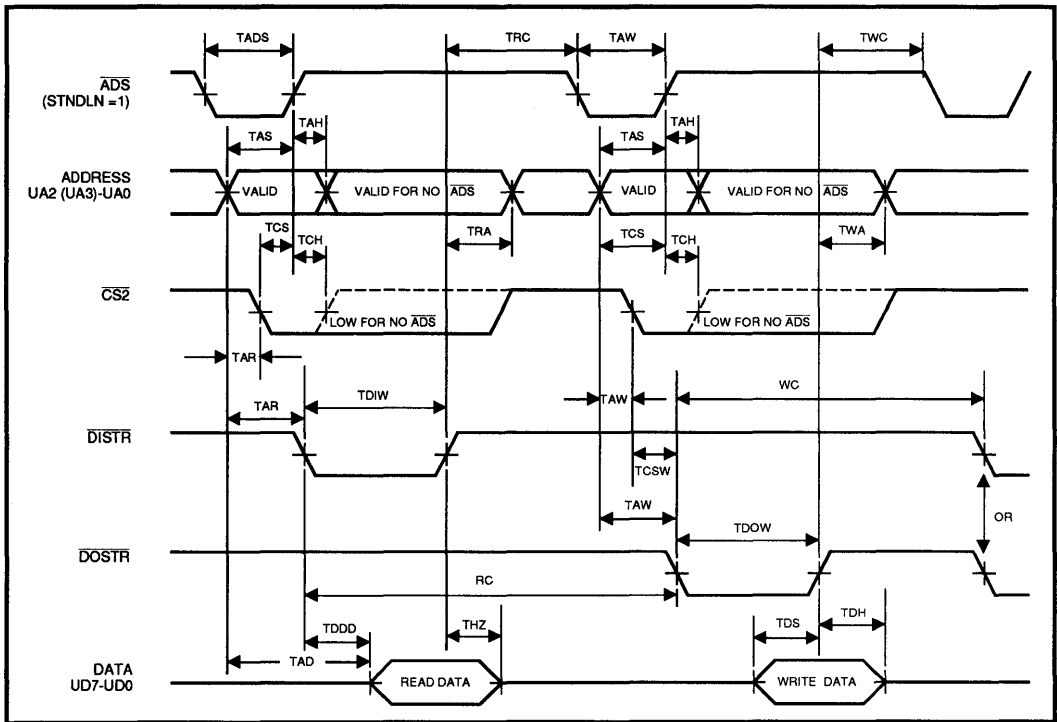

FIGURE 5: UART Bus Timing
**PARALLEL BUS INTERFACE** (See Figure 5) The following times are for CI = 100 pF.